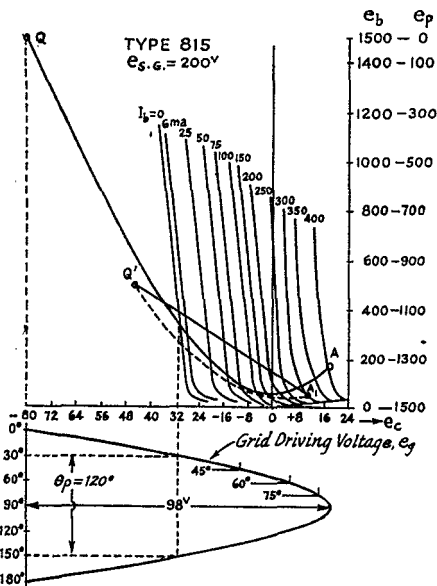

Fig. 1 — Constant-current characteristics and excitation-voltage curves for one section of a type 815.
In Fig. 1 such a chart is shown for the RCA type 815. Let us just disregard most of the lines on the chart and concentrate on the straight load line. This straight line is the conventional load line for a Class-C stage. At the Q point, E_c is -45 volts and E_b is 500 volts. This is the way we are supposed to set it up, according to the tube manuals. The grid swings up to +11 volts; the curves do not tell us what the minimum instantaneous plate voltage is, but we will assume it is 50 volts and thus fix point A₁. Under these conditions, the push-pull stage takes an input of 75 watts and puts out 56 watts.
short-lived. So we will use a power input of approximately (10) (12.5) = 125 watts. The family of curves shown in Fig. 1 is for only one of the two triode units in the tube; hence, the total power input to both units will be (2) (125) = 250 watts. Then $E_{bb} = 125/0.075 = 1667$ volts. We could use a power input of 250 watts in what follows, but 1667 volts is a peculiar value, so let us take 1500 volts and be satisfied with an input of 225 watts.